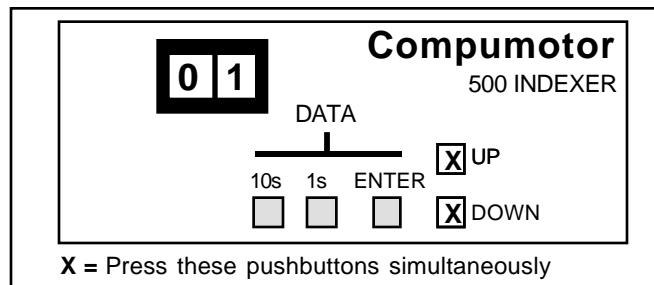

Figure 2-9. Resetting the Model 500
- ① Power-up your computer or terminal *and then* power-up the Model 500.
- ② Press the space bar several times. The cursor should move one space each time you press the space bar. If your terminal displays garbled characters, check the terminal's protocol set-up. The baud rate setting probably does not match the Model 500's setting.
- ③ If the terminal does not display garbled characters, press the space bar several times. If the cursor does not move, disconnect the RS232 plug from the 500 and measure the cable's continuity. If you do not measure > -3V on Pin 1 (Rx) to Pin 3 (GND), your cable is wired incorrectly or your terminal is broken. If you measure > -3V on Pin 2 (Tx) to Pin 3 (GND), then switch the Model 500's transmit (Tx) and receive (Rx) wires and try this test again.
- ④ Once you are able to make the cursor move, enter some characters. These characters should appear on the computer or terminal display. If each character appears twice, your host is set to half-duplex. It should be set to full-duplex.
- ⑤ If your connections are correct, and the device address is set to 01, reset the Model 500. Press the UP and DOWN pushbuttons on the front panel simultaneously as shown in Figure 2-9. This is the equivalent to removing power to the unit, then re-applying power.